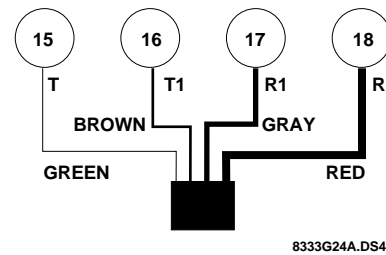

Figure 13. Wiring DB-8 Cord to Panel
- 2) Connect the terminal lugs on the DB-8 cord to the panel (see Figure 13).